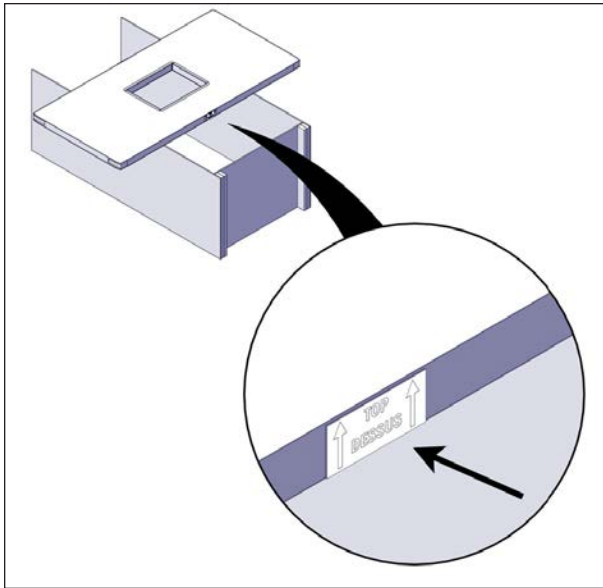

FIGURE 37: PANEL INSTALLATION
2. Install the escape hatch panel (approx. 47" x 96" [119 cm x 244 cm]) onto the middle of the installation surface see Figure 37. Ensure the seal around the escape hatch opening is on the top and TOP/DESSUS label (Figure 37) located in the panel's hole is properly oriented.